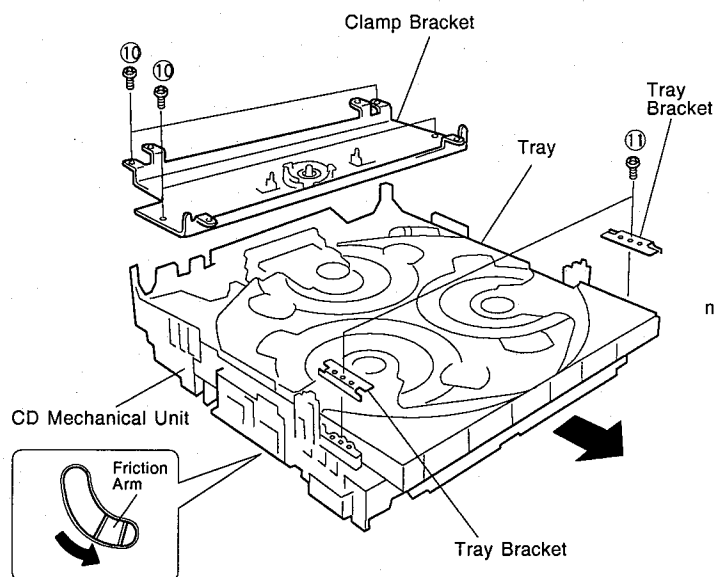

Fig. 8
- Remove 4 screws (10) and then remove the Clamp Bracket in Fig. 8.
- Remove 2 screws (11) and then remove the Tray Brackets in Fig. 8.
- Push the Friction Arm (the bottom side of the CD Mechanical Unit) with a screwdriver or the like and pull out the Tray forward as in Fig. 8.